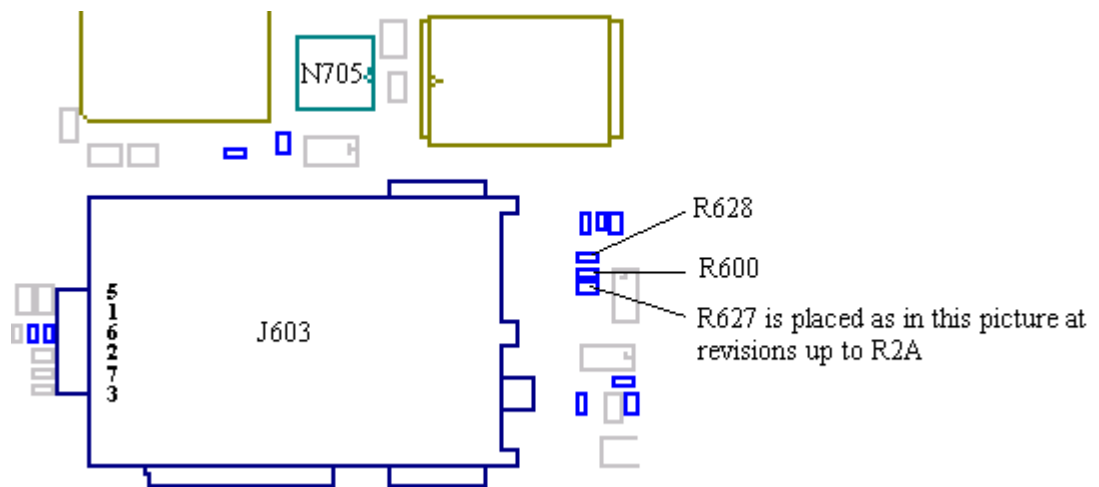

Fig. 7.4
Open the phone and check for liquid damages, especially below the SIM-card (J603, fig. 7.4).
Give the circuit board power and start it up. Measure the input voltage at N705 pin 2 (~3.1V, fig. 7.4).
- * If the input voltage at N705 pin 2 is correct, measure the output voltage VSIMPAD (~5V) at N705 pin 3 (class A, fig. 7.4).
Open the phone and check for liquid damage, especially below the SIM-card holder (J603, fig. 7.4).
Measure the resistance of R600 (class A, ~33 ohms), R627 (class A, ~0 ohms) and R628 (class A, ~33 ohms, fig. 7.4). The resistor R627 is placed according to fig. 7.7 at revision R3A and above.